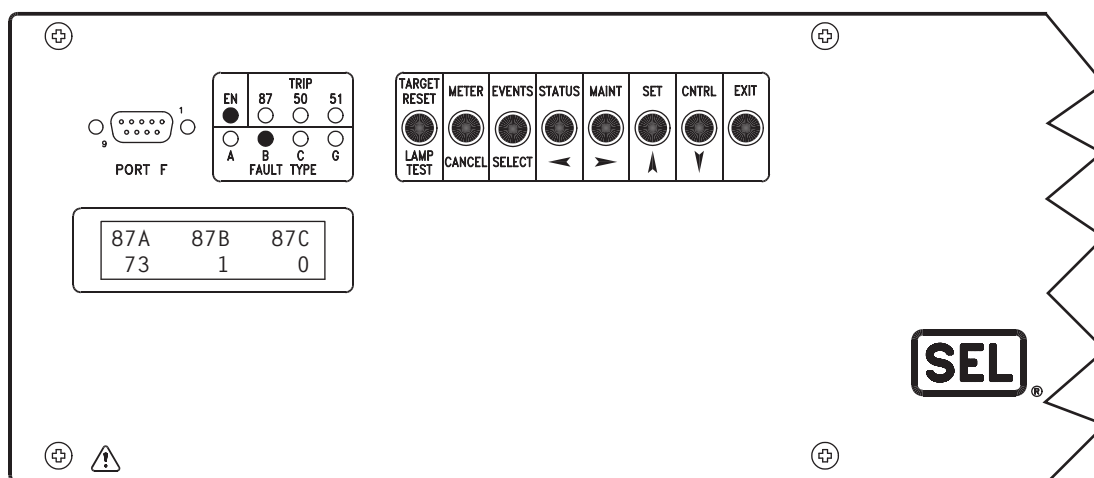

Figure 12 Front-Panel Display
The SEL-587Z includes eight status and trip target LEDs on the front panel. These targets are shown in *Figure 12* and explained in *Table 5*. The target LEDs indicate conditions that the relay has detected on the power system and how the relay has reacted. Nonvolatile memory stores the states of all eight LEDs. If the relay loses power, the targets will resume their last state when power returns.
Use the SEL ASCII **TAR *n*** command (*n* = row number) to assign relay variables to the LEDs during testing. This provides a visual indication of the status of more than 100 variables in the relay. Local Bit (LB) variables, the equivalent of panel switches, are stored in Row 7 in the relay. For example, assume LB1 and LB6 are asserted. Entering **TAR 7** results in the LED display shown in *Figure 12*.